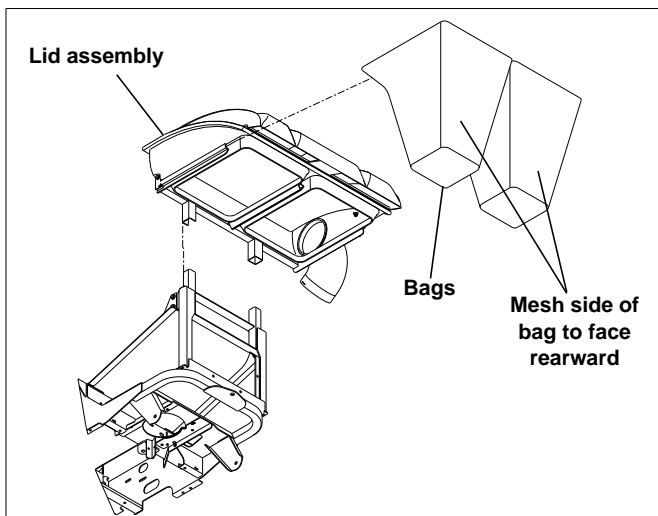
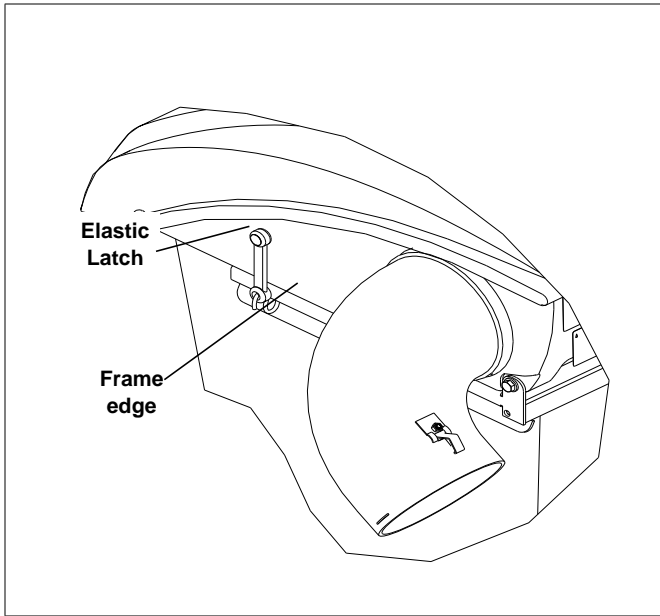

Figure 3-11
Figure 3-14
17. Slide the lid assembly onto the frame mounting tube. Figure 3-11
22. Place the bags in the catcher assembly, making sure that the non-mesh side of the bag is towards the operator, close the hood and fasten in place using the elastic latch. Figure 3-11 and Figure 3-14